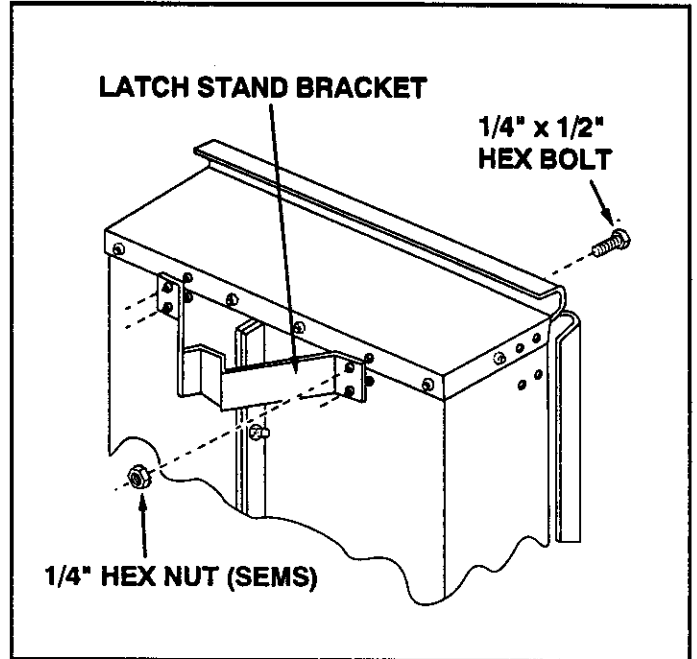

FIGURE 6
- Assemble the latch stand bracket to the cart using four 1/4" x 1/2" hex bolts and 1/4" hex nuts (SEMS). **TIGHTEN**. See figure 6.